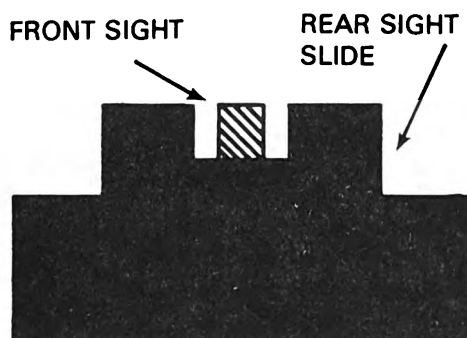

Figure 3.
(1) Sight alinement. To obtain correct sight alinement, center the front sight blade in the aperture of the rear sight slide with the top of the front sight blade even with the top of the sight slide (figure 3).